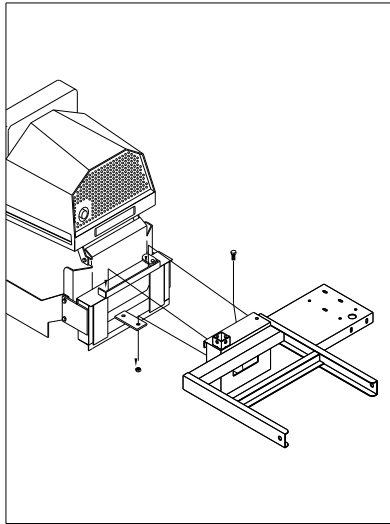

Fig. 2
2. Attach frame (1) onto hitch (29) by hooking lip of frame box onto lip of hitch and sliding the frame to the right or left until hole in bottom of hitch box aligns with hole in drawplate of the hitch installed in step 1. Secure with 5/8" x 1 1/2" carriage bolt, 5/8" split lock washer and 5/8" hexnut. Once secured, pivot lock tab over corner of lip on the frame (1) and tighten bolt. **Fig. 2**